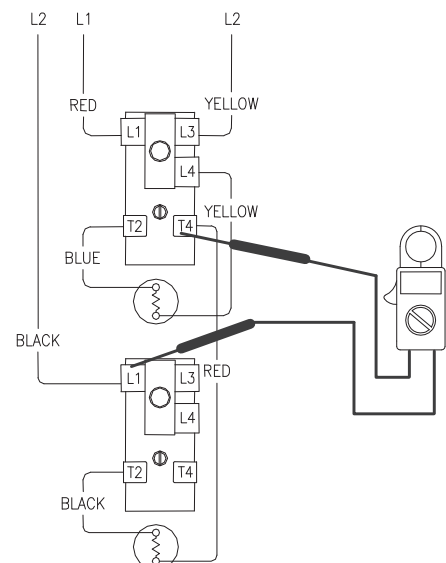

Figure 26
6. Check voltage across terminals T4 of upper thermostat & L1 of lower thermostat (See Figure 26).